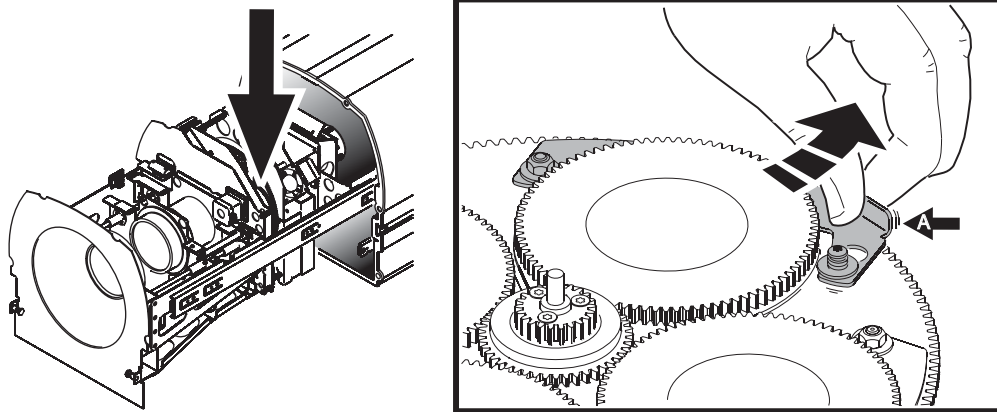

Figure 27: Goboholder release tab
2. See Figure 27. Rotate the gobo wheel with your finger until you can lift the tab (A) on the retaining plate of the goboholder you wish to remove. Pull the tab (A) outwards and lift the goboholder out of the gobo wheel.